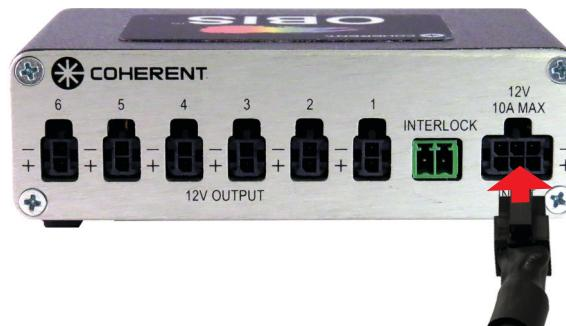

Figure 2-12. OBIS 6-Laser Remote Connecting Power
3. Connect the power cord to the OBIS 6-Laser Remote, as shown in Figure 2-12.